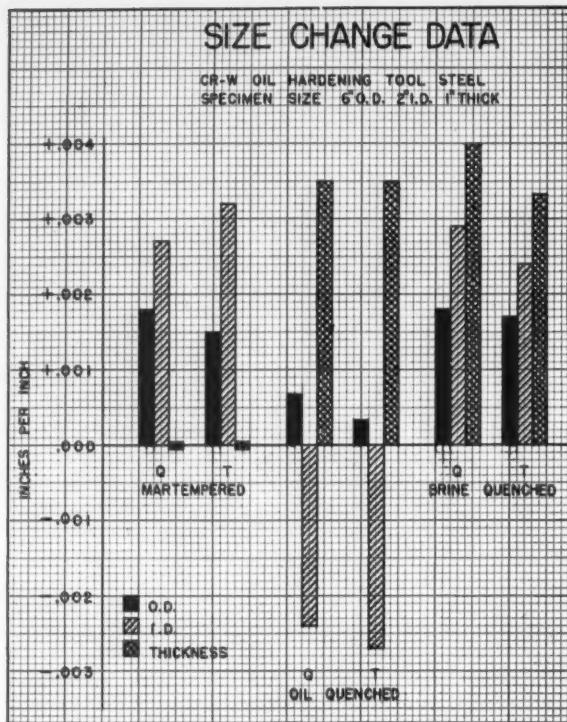

Fig. 5—Bar graph showing results of varying heat treating technique upon size change.
The author has conducted size change experiments on similar test rings of a chromium-tungsten oil-hardening tool steel, which indicated that size change was a function of cooling rate when these rings were martempered, oil quenched and brine quenched. Figure 5 illustrates this effect of varying heat treating technique upon dimensional change in similar test rings. All of the test rings were preheated at 900° F., transferred to an atmosphere-controlled furnace at 1440° F., held one hour, and quenched (1) 400° F. salt, (2) 120° F. oil and (3) brine at 68° F., and after measurement were tempered at 400° F. for two hours. Dimensional changes are shown for the "as quenched" and the "quenched and tempered" conditions designated "Q" and "T" respectively on the bar graph for each type of quench. Table I shows the hardnesses after quenching and after tempering.